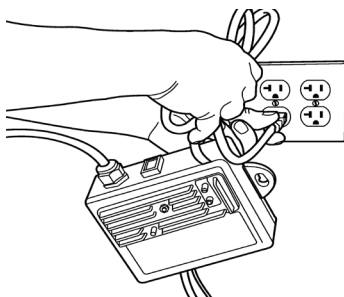

figure 20
6. Plug the electronic control box plug into GFCI outlet on the wall (figure 20).
9. Plug the electronic control box plug(s) into GFCI outlet on the wall (figure 20).